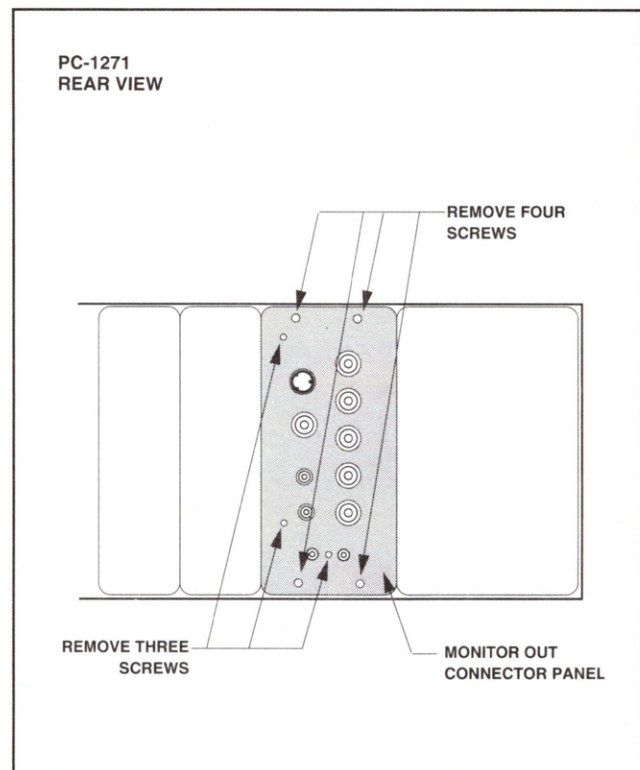

Figure 1
2. Remove the A board from each MONITOR OUT panel by removing the three screws shown in Figure 1.